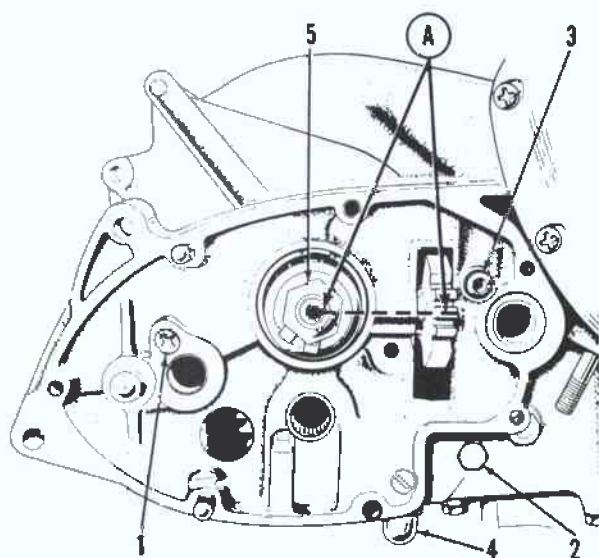
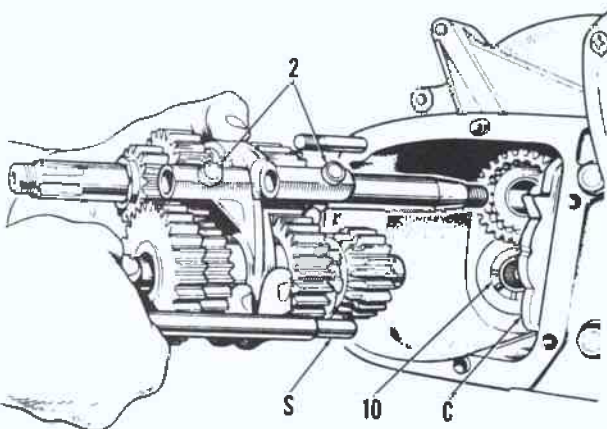
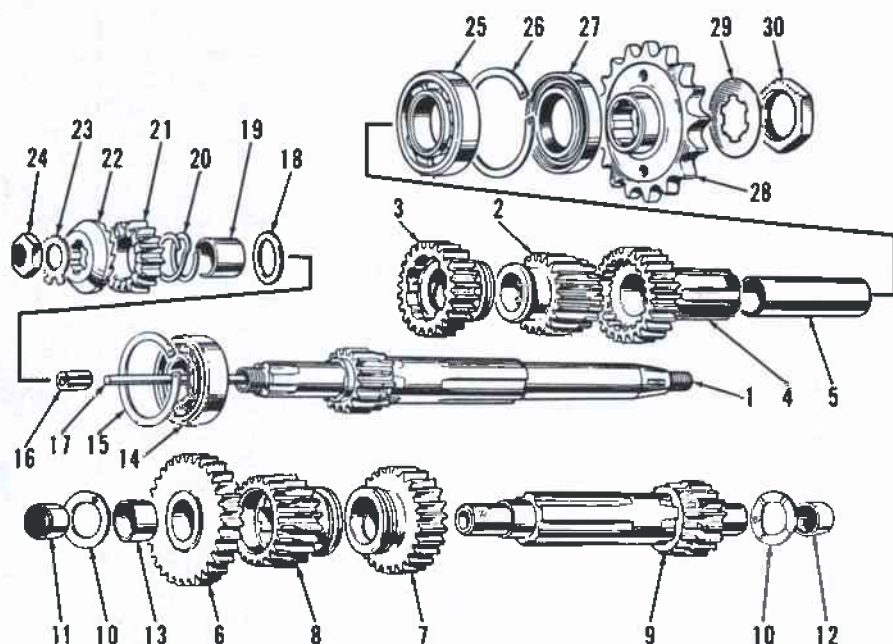
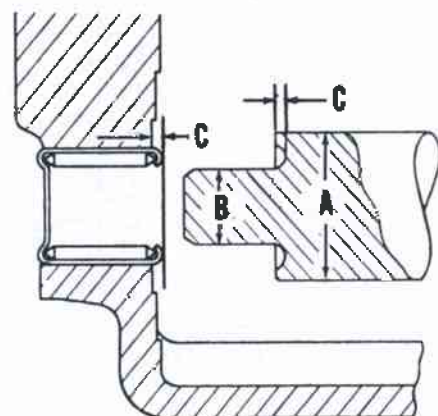

Fig. TM4-32—View of the gear box inner cover installed. Refer to text for removal procedure.
Fig. TM4-33—When removing or installing transmission gears, be careful not to lose thrust washer (10) or rollers (2).
Fig. TM4-34—Exploded view of four speed transmission assembly. Refer to Fig. TM4-33 for assembled view.
Fig. TM4-36—When assembling four speed transmission, detent plunger (D) should engage notch between 2nd and 3rd gears and the camplate (C) as shown.
To remove the inner cover, bend the tab washer back and remove nut (5—Fig. TM4-32), then lift off the kick starter ratchet assembly. Unbolt and remove the right rear engine mounting plate. Remove nut (4) and withdraw the detent plunger and spring. Remove the primary chain cover, alternator assembly, primary chain, crankshaft sprocket and the complete clutch assembly. On models before serial number DU24875, disconnect the speedometer cable. Remove the three screws (1, 2 & 3) and remove the inner cover. Remove the shift fork rail then lift out the transmission gears and shafts as shown in Fig. TM4-33. The transmission output shaft and fourth gear (4—Fig. TM4-34) can be bumped out of bearing after the output sprocket (28) is removed.
If needle bearings (11 or 12) are renewed, bearings should be installed as shown in Fig. TM4-35 using a special drift. Bearing (12—Fig. TM4-34) is closed on outside end, bearing (11) is open. When removing and installing bearings (11, 12, 14 & 25), the appropriate case should be heated to 100° C (212° F.). Oil seal (27) should be installed with open side toward the bearing (25) and against snap ring (26).
When assembling, observe the following: Install the cam plate (C—Fig. TM4-36) and detent plunger (D), spring and nut (N). Turn the camplate until the notch between second and third gears engages detent plunger as shown in Fig. TM4-36. Use grease to stick the
thrust washer (10) in position with grooved side out as shown. Stick the rollers (2—Fig. TM4-33) onto forks with grease. Slide the assembled shafts into housing while carefully sliding gears as required to align rollers (2) with grooves in cam plate (C). NOTE: Be careful not to move the camplate when assembling. With parts correctly positioned in housing, slide the shift rail through shift forks with shouldered end (S) toward inside. Use grease to stick thrust washer (10) around bearing (11—Fig. TM4-34) in the inner cover with the grooved side toward gear (6). Coat mating surfaces of inner
Fig. TM4-35—If needle bearings (11 and 12—Fig. TM4-34) are removed, bearings should be installed using a special drift. The bearings should project 0.073-0.078 inch (C) into the housing.
cover and gear case with sealer, align the center tooth of the gear selector quadrant with center line of transmission input shaft as shown at (A—Fig. TM4-32) and install the inner cover. Install the gear box outer cover temporarily and check for correct shifting. NOTE: If gears can not be shifted correctly, remove the covers and check position of camplate (C—Fig. TM4-36) and quadrant (A—Fig. TM4-32). Install the kickstarter ratchet assembly (18 through 23—Fig. TM4-34) over end of shaft and tighten nut (24) 45 Ft.-Lbs. torque. NOTE: Sleeve (19) may be crushed if nut (24) is over tightened.